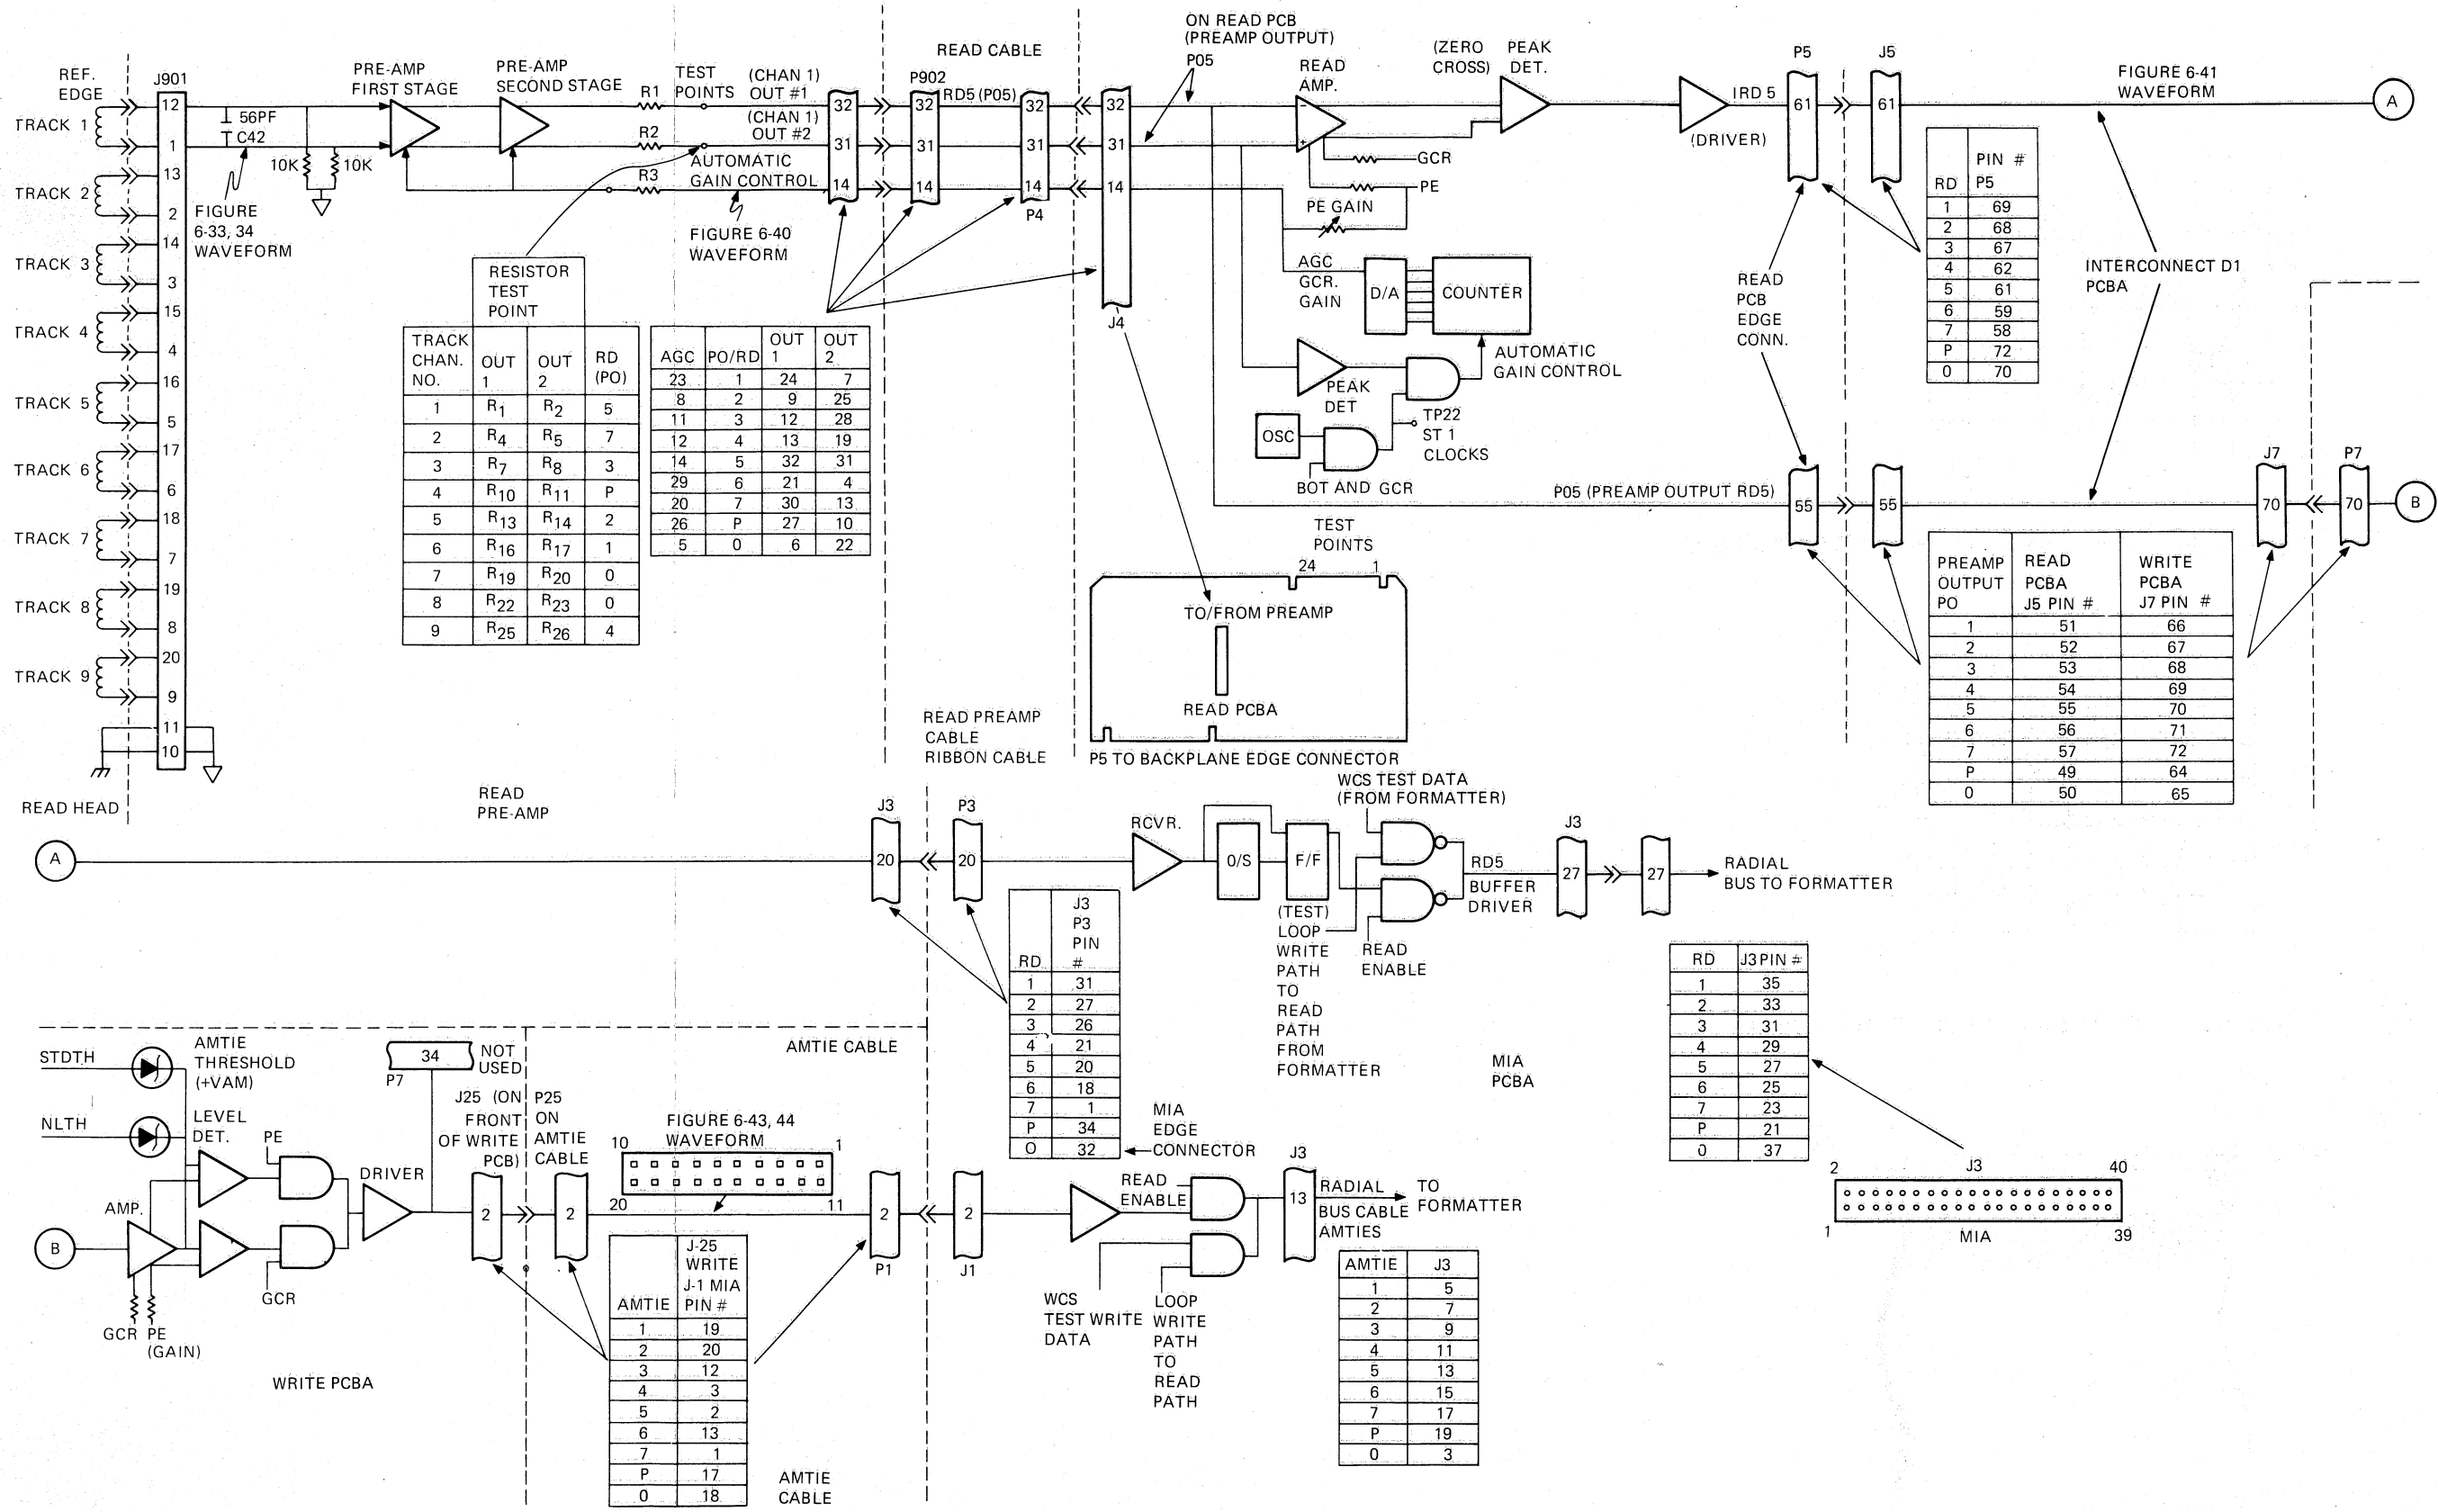

Figure 6-39 Read Path One Functional Block Diagram
6.6.7.3 Read Path Troubleshooting - The read path can be divided into the two basic sections; the data path and the AMTIE path. A read path one function diagram (Figure 6-39) is provided so you may trace the data flow completely through the transport, from the head to the TU bus, using channel 5. Figure 6-39 provides pin charts so you may scope other channels as well.
Use Figure 6-39 to trace the nine read data channels through the read PCBA and MIA PCBA. The TU78 does not generate a read data strobe pulse because all nine channels are deskewed in the formatter. Figure 6-41 shows the waveform for a read data bit at the output of the read PCBA [IRD (n)]. Read data bits are not latched in the TU78.